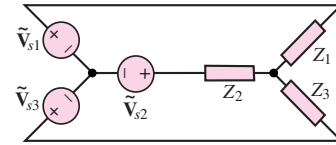

Figure P7.52
**7.52** In the circuit of Figure P7.52: